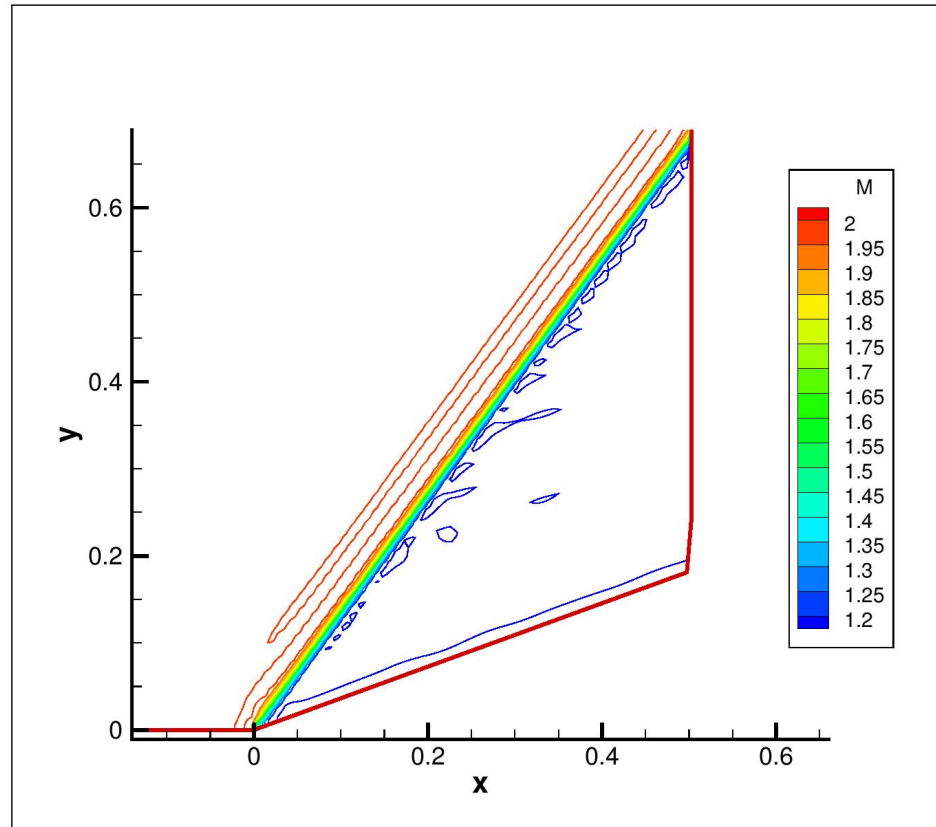

Figure 2: Contour Plot for Mach Number on 200x100 grid after 30,000 iterations
5. Variation of Mach number is also observed ahead of the shock instead of a single value (For eg. in Figure 2). This happens mainly due to the presence of numerical errors involved in computations.